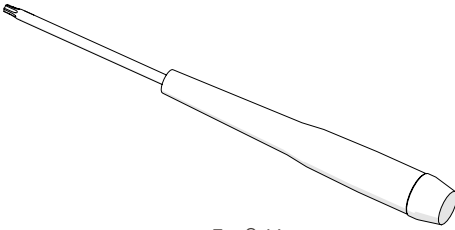

Fig. 22 - Torx® driver
- ▶ The Torx® driver (*Fig. 22*) is sufficient for typical operations and adjustments of the CIRC-IT.